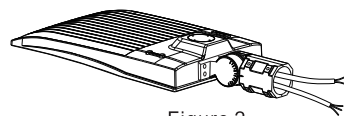

Figure 2
- Step 2: Install the mounting on the fixture. (Figure 2)